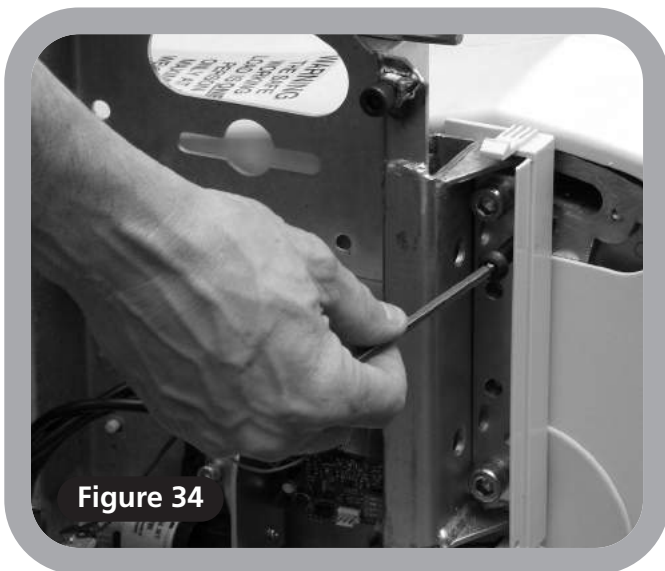

Figure 34
- 5 Fit the safety bolt (**Figure 34**). This needs to be left loose enough to allow the rear cover to pass behind it.